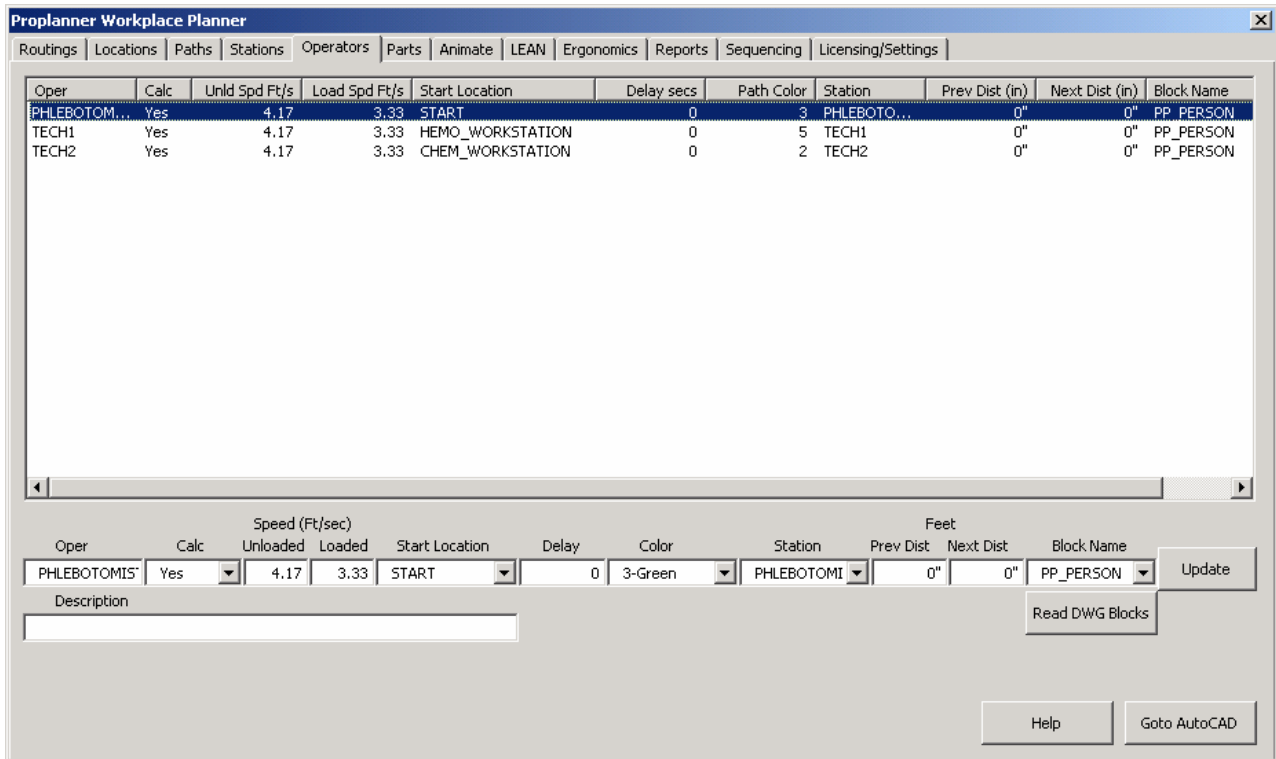

Figure 10
STEP 12: Now select the *Operators* tab again to see the operators in your study. This window is filled when you load, or define, your routings. Every time that you use a unique operator name, it will appear in this window. From this window, you can set the walking speed of your operators, their starting positions, and the color of their flow paths. An ability to set the maximum distance traveled into the previous workstation to work on a moving part has also been included here. (See Figure 10)